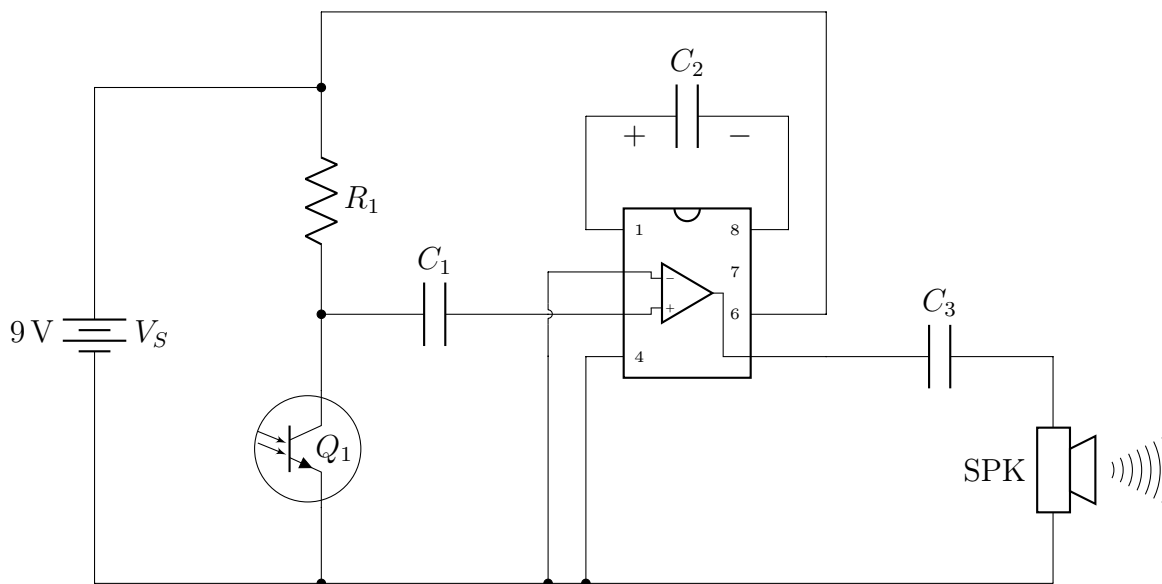

Figure 2: Music Receiver Circuit
1. Build the receiver circuit outlined in Figure 2. Keep in mind that the IR LED from the transmitter you just built will need to be positioned about 1/2" from the phototransistor in this receiver circuit.